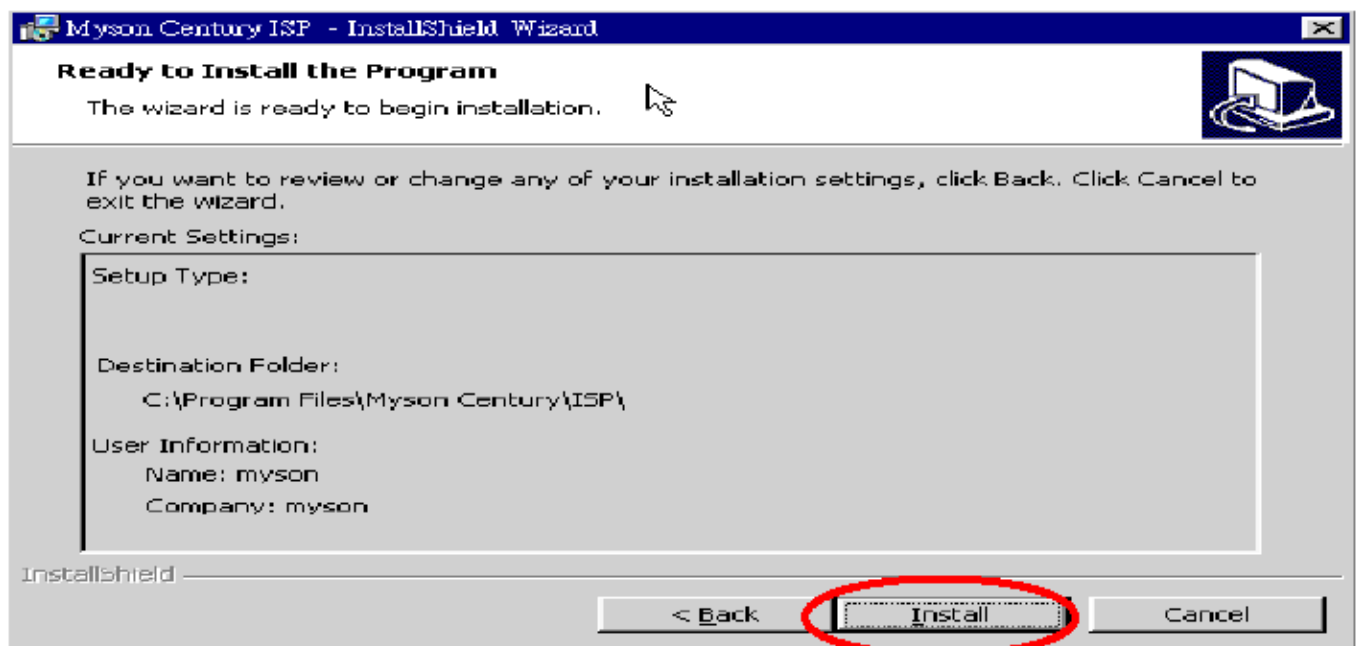

Fig 2.5
2.5 Press “ Install ” button to continue, see Fig 2.5